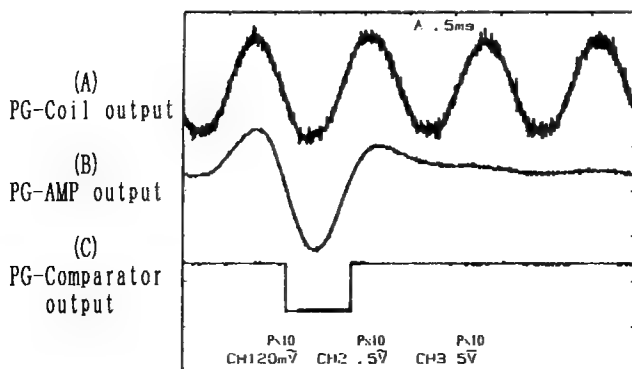

Fig. 4 PG signal
PG-Coil generates PG-signal(Fig.4-(A)) by turning Drum motor and PG-AMP converts to PG-AMP output signal, as shown in Fig.4-(B). Further, PG-Comparator converts PG-AMP output signal(Fig.4-(B)) to pulse wave form, as shown in Fig.4-(C) and it is input to terminal DPO of servo LSI(MSM6557) as reference phase signal. After amplifying PG-Comparator output signal(CYPG) by LSI(MSM6557), one amplified signal is input to PWM-CONVERTER in MSM6557 and the other is output from DPO terminal as change-over signal for A and B head.